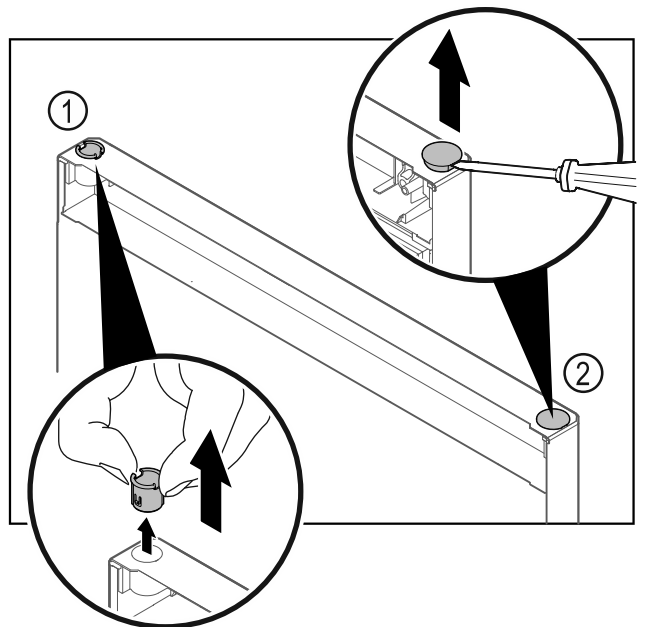

Fig. 21 Fridge compartment door
- ▶ Pull out the hinge bushing Fig. 21 (1) with your fingers.
- ▶ Carefully lift the cover plug Fig. 21 (2) with a slotted screwdriver and pull it out.